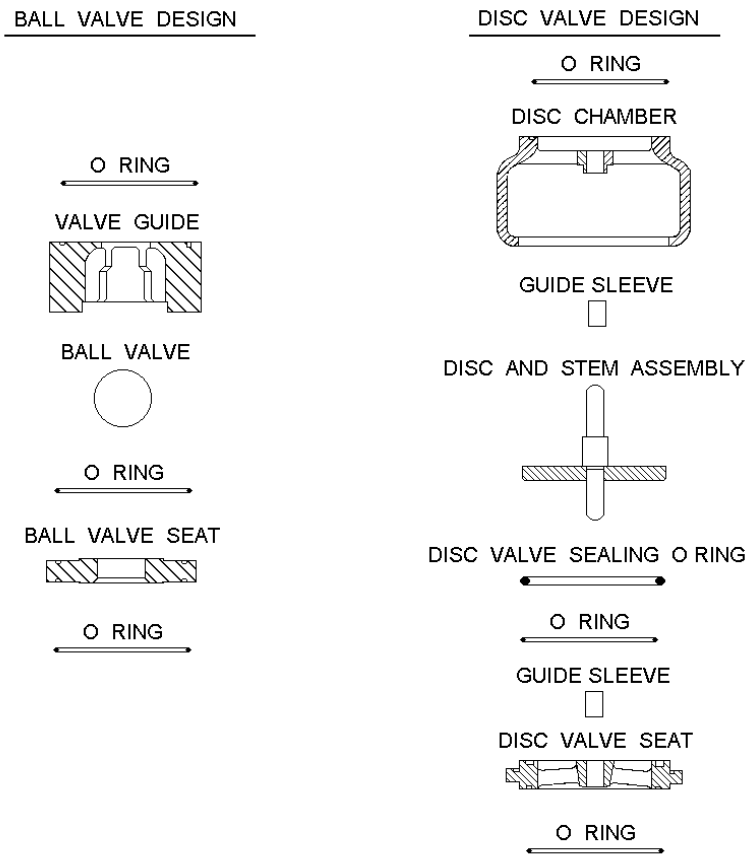

Figure 14
1. Reinstall both valve assemblies, taking care to ensure that they are correctly oriented with balls or disks above seats. Refer to *Figure 14*.